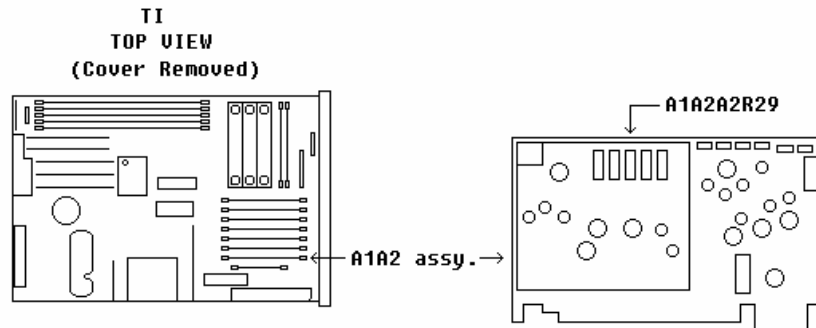
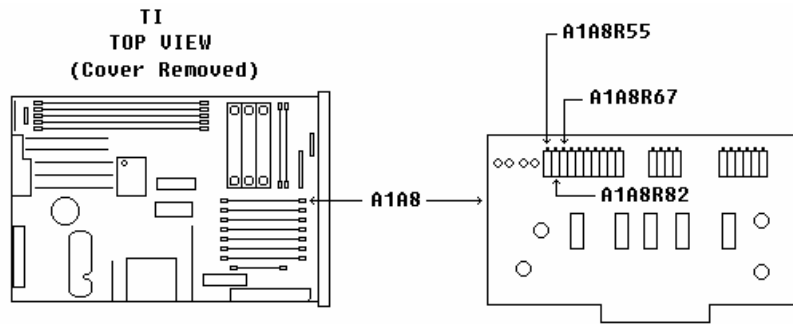

Figure 7. A1A2 board.
Figure 8. A1A8 board.
- (6) Press TI RCL 1.
- (7) Adjust A1A2A2R29 (fig. 7) for a measuring receiver indication of  $-3.0$  dBm (R).
(8) Using **TUNE KNOB**, tune the test instrument from 2 to 6.6 GHz. Record minimum and maximum measuring receiver indications and frequencies where they occur.
(9) Adjust A1A8R55 (fig. 8) to reduce the difference between minimum/maximum power indications (R).
- (10) Using **TUNE KNOB**, tune the test instrument to 2 GHz.
- (11) Readjust A1A2A2R29 (fig. 7) for a measuring receiver indication of 3.0 dBm.
- (12) Tune the test instrument from 2 to 6.6 GHz. Verify that the output level stays within  $\pm 1$  dB of -3 dBm.
- (13) Repeat (8) through (12) above until level stays within 1 dB of -3 dBm or until no further improvement can be made.
- (14) Press TI **RCL 2**.
- (15) Using **TUNE KNOB**, tune the test instrument from 6.600002 to 12.99902 GHz. Record minimum and maximum measuring receiver indications and frequencies where they occur.
- (16) Adjust A1A8R82 (fig 8) to minimize difference between minimum and maximum power indications (R).
- (17) Press TI **SWEEP MODE OFF, FREQ INCR, 2, 0, 0**, and **MHz** keys.
- (18) Verify the measuring receiver indicates -3 dBm  $\pm 0.2$  dBm. Readjust A1A2A2R29 (fig. 7) as necessary for best compromise.
- (19) Using **TUNE KNOB**, tune the test instrument from 2 to 12.2 GHz. Verify that the difference between the minimum and maximum power indications are equal to or less than 3 dB.
- (20) Press TI **RCL** and **3** keys.
- (21) Using **TUNE KNOB**, tune the test instrument from 12.300003 to 17.59999901 GHz. Record minimum and maximum measuring receiver indications and frequencies where they occur.
(22) Adjust A1A8R67 (fig. 8) to minimize difference between minimum and maximum power indications (R).
(23) Press **TI SWEEP MODE OFF**, **FREQUENCY**, **2**, and **GHz** keys.
(24) Adjust A1A2A2R29 (fig. 7) for a measuring receiver indication of -3.0 dBm.